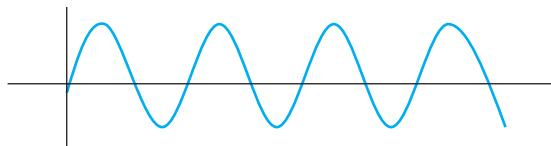
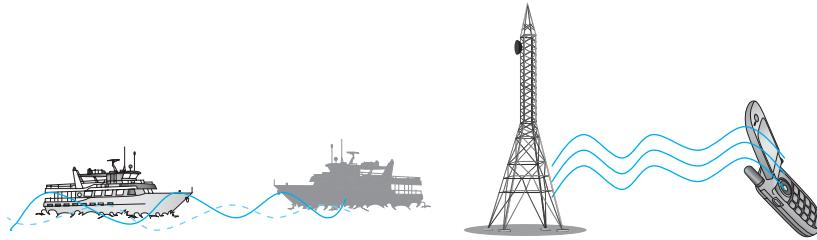

FIGURE 6.1 Sinusoidal signals.
FIGURE 6.2 Examples of sinusoidal signals.
Sinusoidal signals (also called sinusoids) play an important role in science and engineering. Figure 6.1 shows an example of a sinusoid. Sinusoidal signals describe the characteristics of many physical processes; examples include (1) ocean waves; (2) radio or television carrier signals; (3) acoustic pressure variations of a single musical tone; and (4) voltages and currents generated by alternating-current (AC) sources. Figure 6.2 shows examples of signals formed by sinusoids.